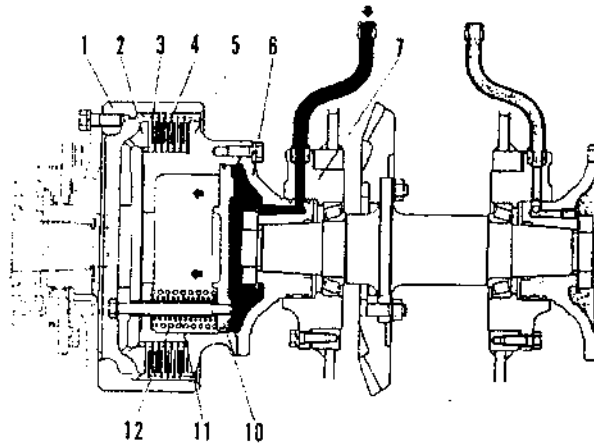

Fig. 2-27
The structure of the steering clutch is shown in Fig 2-27. It consists of the inner drum, outer drum, pressure plate, plates and discs springs.
When the pressurized oil from steering control valve goes to the inner chamber of hub (6) (as shown in Fig. 2-27), it pushes the piston (10), bolt and pressure plate (2) to make them move in the direction of arrow (overcome a load of large and small springs), the clutch plate (4) be disengaged from the friction disc (3), outer drum (1) stopped, therefore the power transfer interrupted.